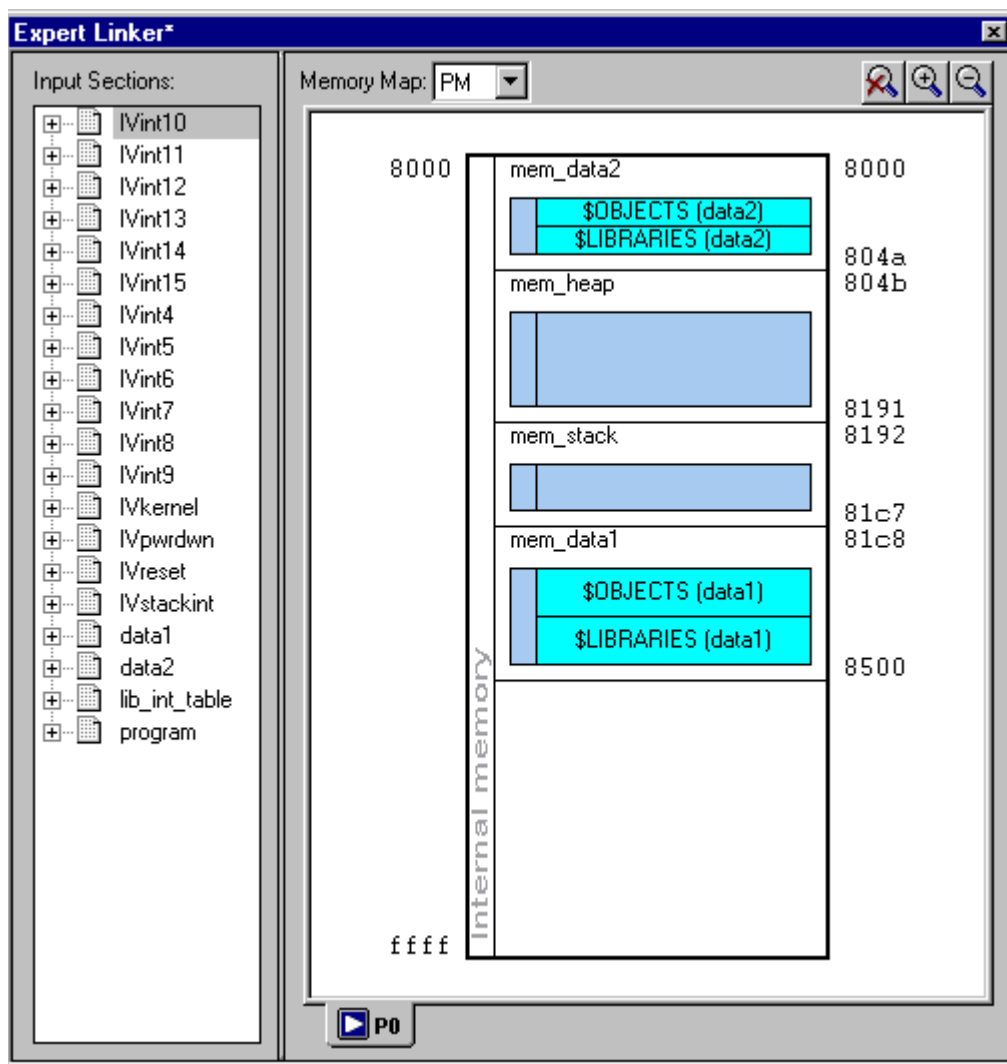

Figure 3-21. Memory Map Pane in Pre-Link View
- To enable pre-link view from the **Memory Map** pane, right-click and choose **View and Mapping Strategy (Pre-Link)**. Figure 3-21 on page 3-29 illustrates memory map before linking.